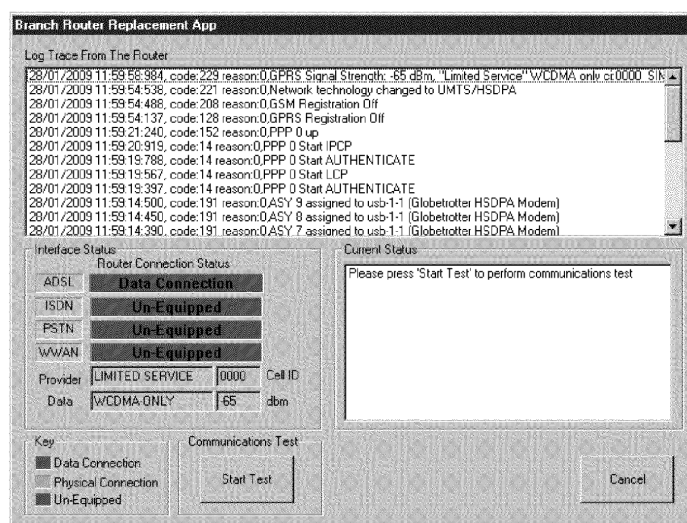

Figure 9
- 2) The Branch Manager should select the 'Network' (82) icon. HNG-X will then display the Current Status screen (See figure 9 below)